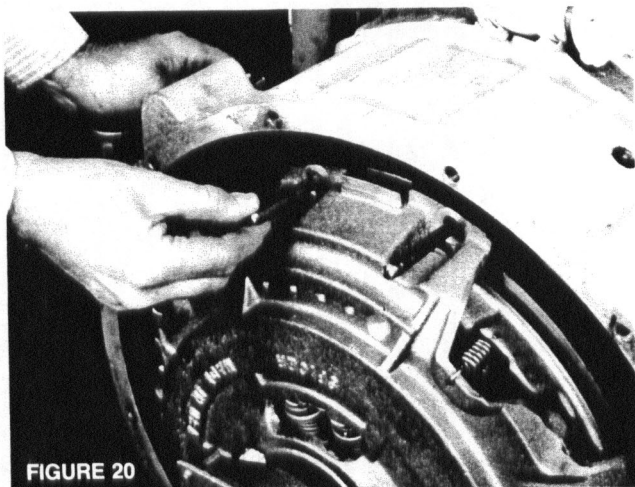

FIGURE 20
**Note:** Because of the weight of a 15½" clutch, (Fig. 20) install two guide studs in the top mounting bolt holes to facilitate removal. Now remove the mounting bolts and carefully remove the clutch assembly.